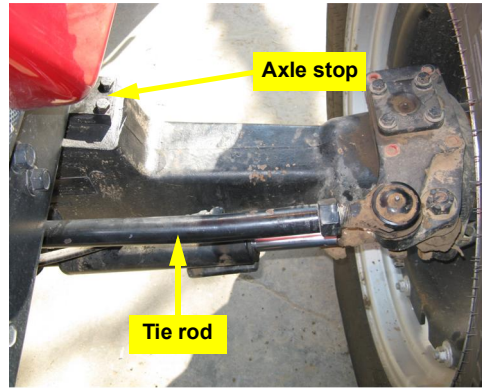

Figure 2a: Axle and tie rod location
- a. Locate the tie rod and axle stops on the right hand side of the steering axle (Figure 2a).